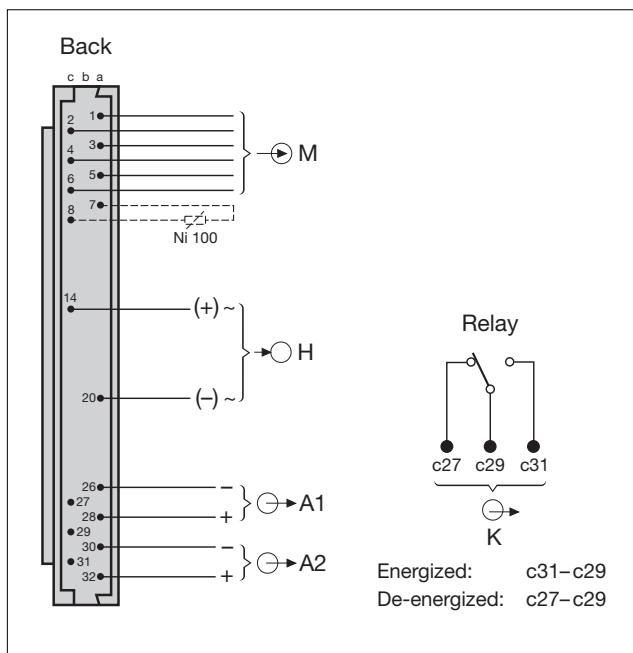

Fig. 6. Plug arrangement seen from the rear of SIRAX V 644.
The transmitter SIRAX V 644 is plugged onto a backplane BP 902. A 96 pin connector (Model C, DIN 41 612) establishes the electrical connections between the transmitter and the backplane. The pin connections can be seen from Fig. 6. Please refer to our backplane instructions for the backplane wiring.
- ... the data required to carry out the prescribed measurement must correspond to those marked on the nameplate of SIRAX V 644 ( $\rightarrow \ominus$  measuring input M,  $\rightarrow \oplus$  measuring outputs A1 and A2,  $\rightarrow \odot$  power supply H and  $\rightarrow \odot$  output contact K, see Fig. 6)!
### Legend for Fig. 6
Connect the output leads for output A1 to pins a26 (-) and a28 (+) and for output A2 (field indicator) to pins a30 (-) and a32 (+) as shown in Fig. 6.
Connect the power supply to pins a20 ( $\approx$ ) and c14 ( $\pm$ ) as shown in Fig. 6.
Connect the output contact signalling leads acc. to Fig. 6 resp. Table 6.